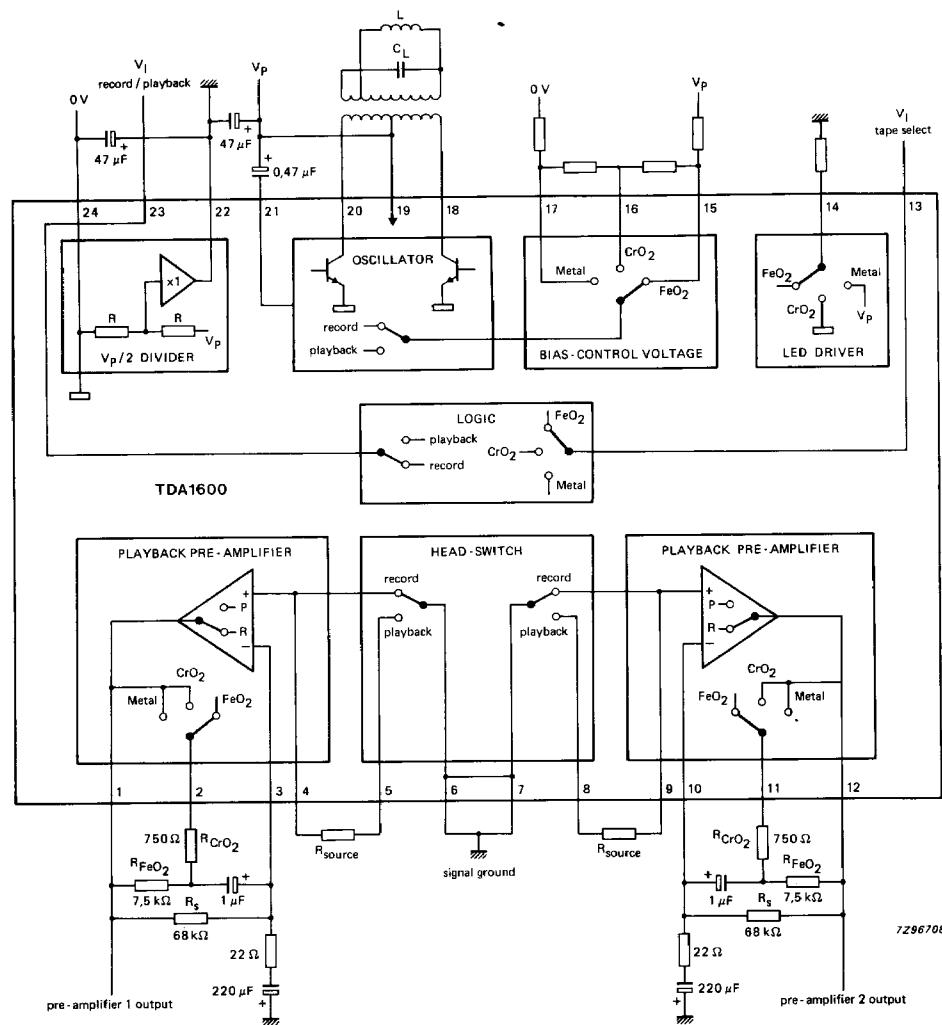

Fig. 6 Test circuit diagram.
**CHARACTERISTICS** $V_P = 15 \text{ V}$ ;  $f = 315 \text{ Hz}$ ;  $T_{\text{amb}} = 25^\circ\text{C}$ , unless otherwise specified (see Fig. 6)